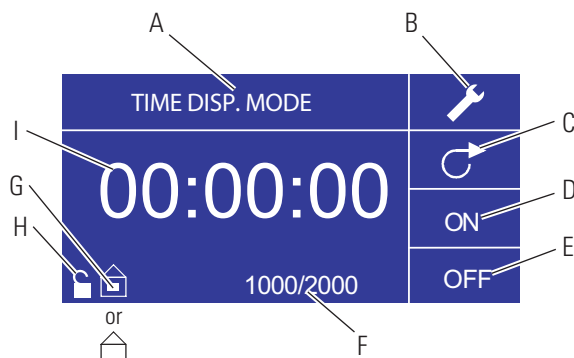

Figure 3-4. Time Dispense Mode Screen
- I. **Time Display:** The center digits show the remaining time of the drive in the ON or OFF Time highlighted on the right of the display (position D or E, Figure 3-4).
6. **Setting ON Time:** To set the ON Time, use the directional pad and ENTER key to select the ON field (see position D, Figure 3-4). Doing so will highlight the timer in the center of the screen (see position I, Figure 3-4). Pressing ENTER again, allows the timer to be set using the UP/DOWN arrows. Switch between digits using the LEFT/RIGHT arrows. Having selected an optimal ON Time, press ENTER again to validate. The drive will now run for the time appearing in the center of the screen.
7. **Setting OFF Time:** To set the OFF Time, use the directional pad and ENTER key to select the OFF field (see position E, Figure 3-4). Doing so will highlight the timer in the center of the screen (see position I, Figure 3-4). Pressing ENTER again, allows the timer to be set using the UP/DOWN arrows. Switch between digits using the LEFT/RIGHT arrows. Having selected an optimal OFF Time, press ENTER again to validate. The drive will stop running for the time appearing in the center of the screen. **NOTE:** If the OFF Time is set to 00:00:00, the drive requires a START/STOP **input** from the keypad or the remote I/O Connector to start the next dispense.
8. **Selecting Batch Size:** Before running the drive at the selected ON/OFF Times, select a batch size for the operation. To do so, use the directional pad and the ENTER key to select the BATCH icon (see position F, Figure 3-4). In the Batch Count screen, press the ENTER key and then use the UP/DOWN arrows on the directional pad to select a batch size. Switch between digits using the LEFT/RIGHT arrows. Press ENTER one more time to validate the selected batch size. When set to zero (0) the drive will run for an infinite number of cycles and the ∞ symbol is displayed. Use the directional pad to select EXIT to return to the Time Dispense Operation Screen.
10. **Resetting Batch:** To reset a batch, use the directional pad and the ENTER key to select the BATCH icon (see position F, Figure 3-4). In the Batch Count screen, use directional pad to select RESET and press the ENTER key to reset the batch count, select EXIT to return to the main Time Dispense Mode operation screen.